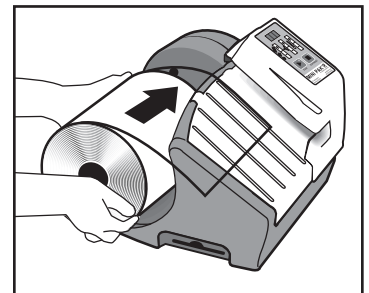

Figure 2
1. Slide film onto Film Roll Holder until it seats firmly — Film feeds from top of Roll. (See Figure 2)